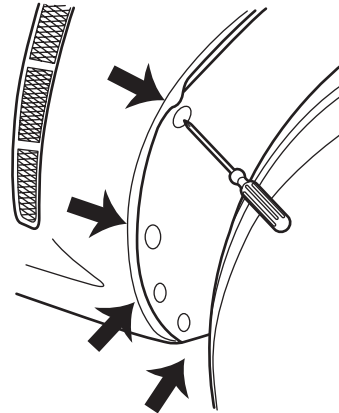

FIG. 1
2. Using a Phillips screwdriver, remove (4) plastic scrivenets in the position as shown in Figure 1. Remove bottom of splash guard. Save for re-assembly.